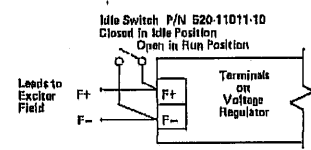

FIGURE 1A. IDLE SWITCH CONNECTION
- NOTE 3 Connection of optional idle switch is shown in figure 1A.